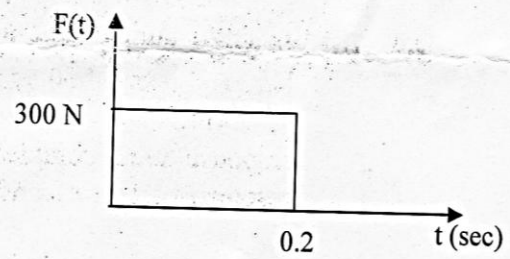

Fig.4
Q.4 (b) A single spring mass system has spring constant of 3000 N/m and mass of 30 kg. If it is loaded by an impulsive load as shown in the Figure 4, derive the equation of the response after completion of the impulse and find the responses at $t = 1$ second. 07